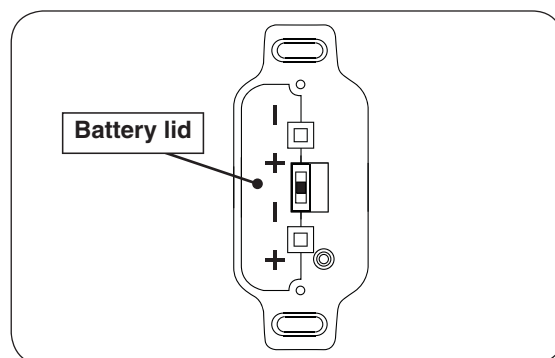

Fig. 27-4 Install receiver batteries
2. Slide the 3-position switch on the receiver to the **ON** position, then remove the switch. Unfasten the plastic plate using a Phillips screwdriver. See Fig. 27-4. Remove the battery lid (push in tabs) and properly insert the batteries as marked (see Fig. 27-5). Re-secure the lid, the plate, and the switch.